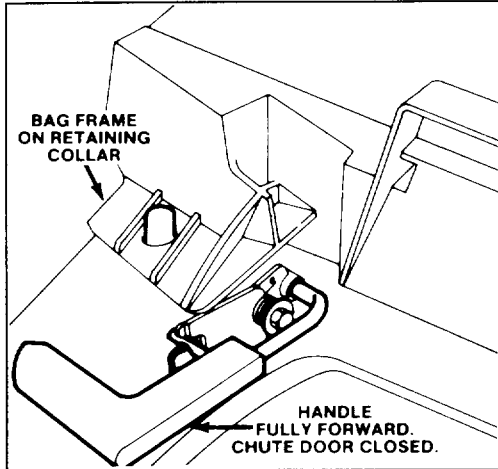

Figure 4
MULCH—In summer when grass grows slower and is drier, mulch by removing the grass bag and closing the discharge door (Fig. 4).
5. EMPTYING BAG—Release control bar and wait for blade to stop. Move chute door handle forward to engage the locking pin with catch (Fig. 4). Grasp handle at front and rear of bag and lift bag off mower. For protection, always keep hands and feet away from mower housing because engine is running. Gradually tip bag forward to empty clippings.